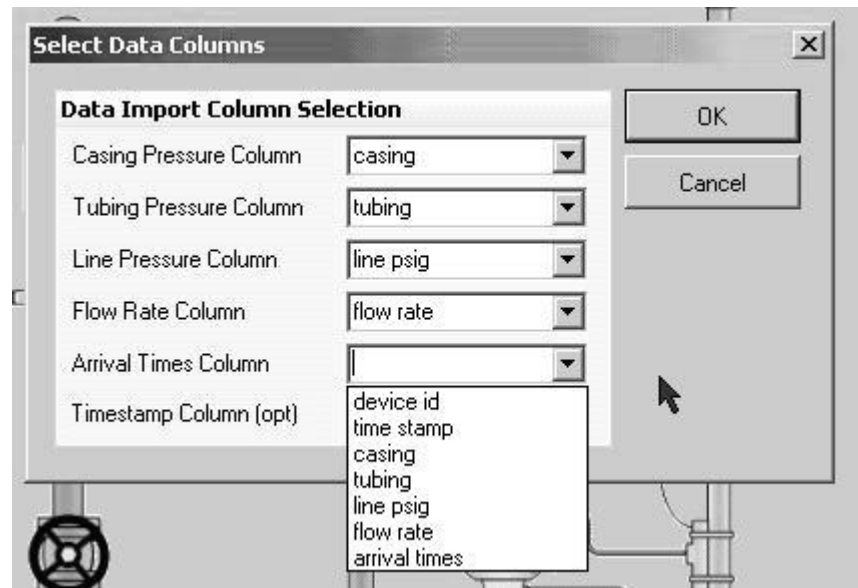

Figure 5–3 Select Data Columns Dialog Box
- 3) By clicking the OK button, the user is prompted with another dialog box that has scanned the trend file and compiled a list of column headings. The column headings that match the criteria set in the Application Settings > Data Import Column Setup will be automatically loaded (see Figure 5–3).